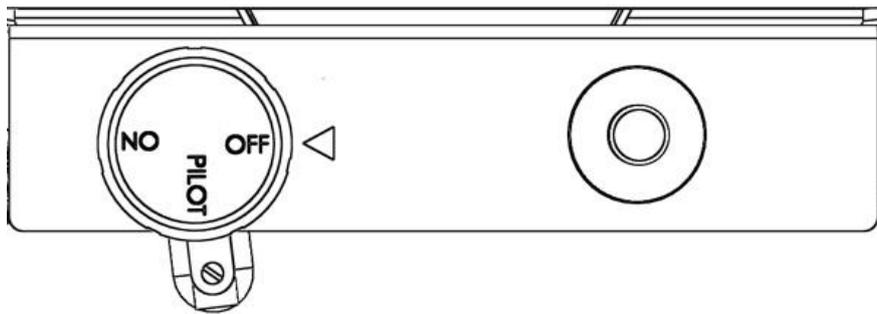

Figure 7
1. Make sure the valve knob is in the “OFF” position. See Figure 7. If it is not, turn the knob to the “OFF” position and wait five (5) minutes.
2. Push the control knob slightly and to the “PILOT” position. Push the control knob in all the way and press the igniter button repeatedly. The flame should light inside the ignition screen within a few seconds. Once the flame is lit, continue to hold the control knob in for 20 to 30 seconds. Release the control knob. The control knob should pop back out and the flame should remain lit. Turn the control knob to the “ON” position. Note: If the fire does not light, turn the knob to the “OFF” position and wait five (5) minutes before trying again.